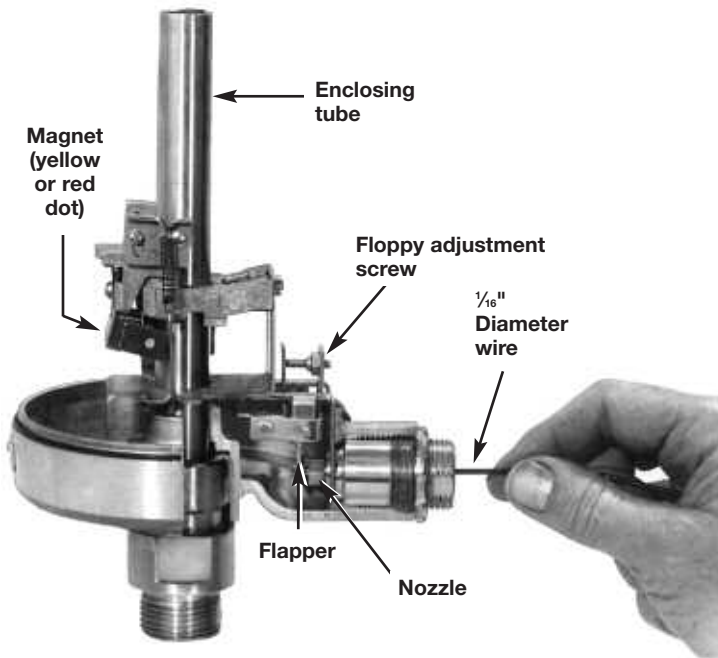

Figure 7
4. Insert a $\frac{1}{16}$ " diameter wire into the nozzle from the air line connection side. Refer to Figure 7. The wire may be moved back and forth to clean the opening of any accumulated matter.